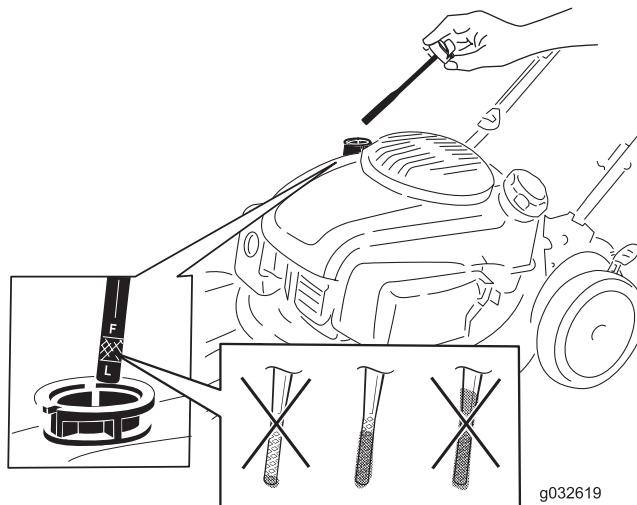

Figure 21
4. Slowly pour oil into the oil-fill tube until the oil level reaches the Full line on the dipstick (Figure 21). **Do not overfill.** (Max. fill: 0.53 L (18 oz), type: 10W-30 or SAE 30 detergent oil with an API service classification of SJ or higher.)